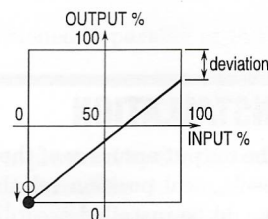

Fig. 7
4) With 0% input, adjust the output to 0% with Zero adjustment. See Figure 7.